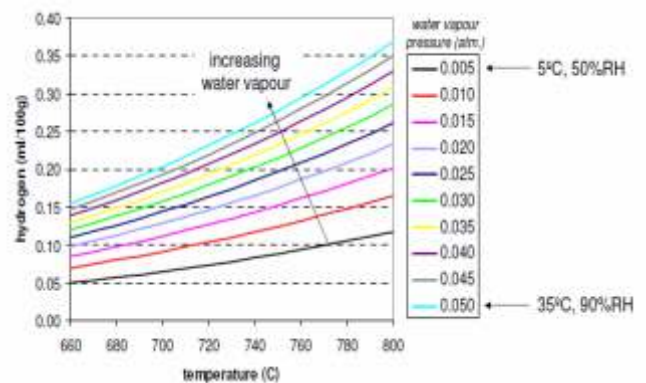

Figure 2
- I. **Ambient Conditions:** The degassing of melt in its simplest form is a process of driving the equilibrium of Hydrogen in the atmosphere and that in the melt. The Water vapor pressure in the atmosphere (Relative Humidity) therefore, has an important effect on the Hydrogen pick up. (Figure 2)